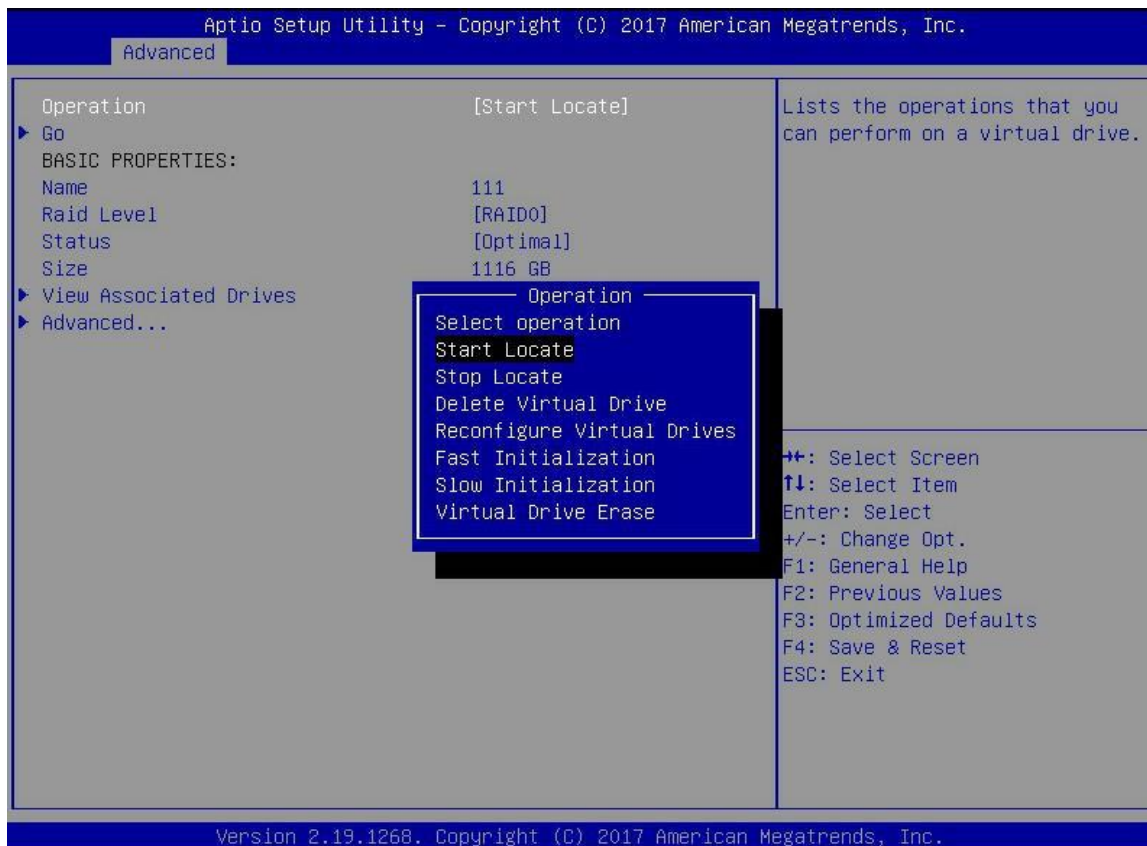

Figure 6-38
c) Enter the interface shown in figure 6-38, select operation, press enter, and then select Start locate in the pop-up dialog box and press enter.